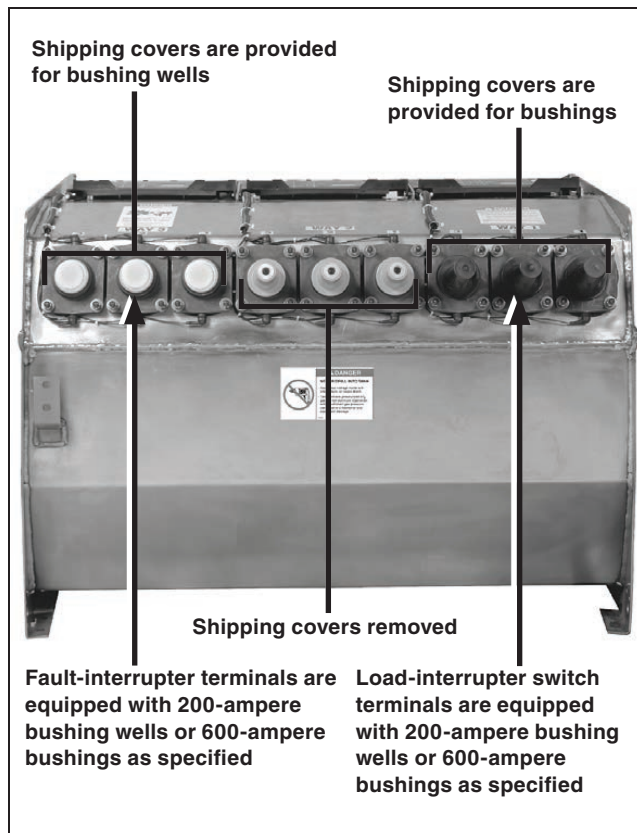

Figure 46. A Vista switchgear tank with shipping covers. (Manual unit shown for illustration purposes.)
STEP 1. Remove the shipping covers from the bushings and bushing wells. See Figure 46.